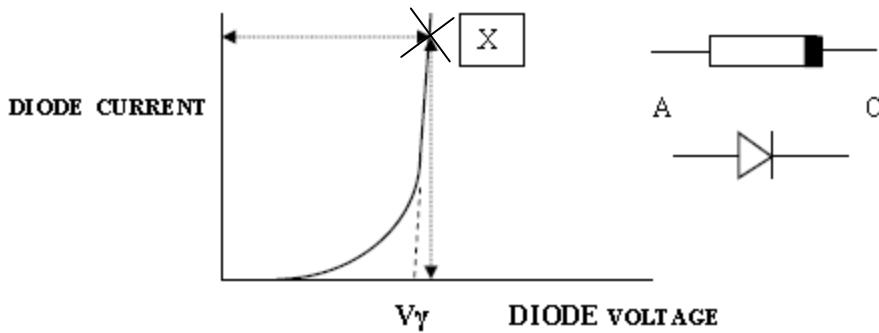
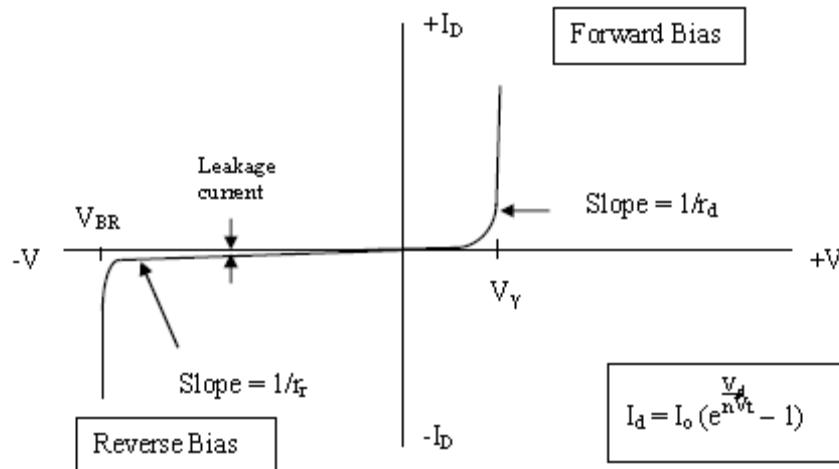

Figure 1.3: Diode forward I-V characteristic showing the definition of V_γ
Figure 1.4: Forward and reverse diode I-V characteristics
A sketch of a diode characteristic, as it would be measured on a curve tracer, is shown in Figure 1.3. The curve tracer only measures the forward I-V or the reverse I-V characteristic in any one sweep. The characteristics shown in Figure 1.4 are the combination of the forward and reverse characteristics. Appreciable conduction occurs from around 0.4V to 0.7V for silicon and from around 0.2V to 0.4V for germanium at room temperature. The value of V_γ is a function of the current at which V_γ is measured. This point is discussed below and is one of the concepts you should master from this experiment. If the applied voltage exceeds V_γ , the diode current increases rapidly.
The complete diode characteristic is shown in Figure 1.4, piecing together the forward-biased data and the reverse-biased data. Note that the scales of +V and -V may differ by a factor of 100, and while +I may be mA or A, -I is likely to be μ A or nA.
The **reverse resistance, r_r** , is given by the reciprocal of the slope of the reverse characteristic, prior to breakdown (see Figure 1.4).
3. Determine the slope from the linear plot of the forward I-V characteristic as a function of the diode current, as shown in Figure 1.4, using the data previously taken in Table 1.1. Note that the inverse of the slope, or r_d , you measure is a function of where you choose the diode current. Obtain at least eight (8) slope data points.